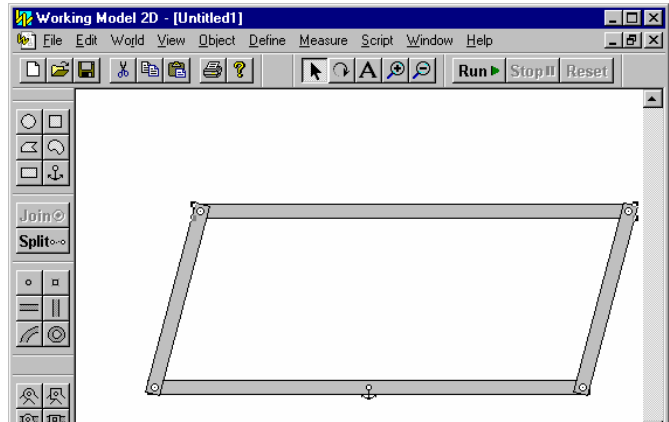

Figure 9. Building a fourbar linkage. Step 9.
9. You can now move the linkage into different positions by clicking links and dragging them to a new location, Figure 9.